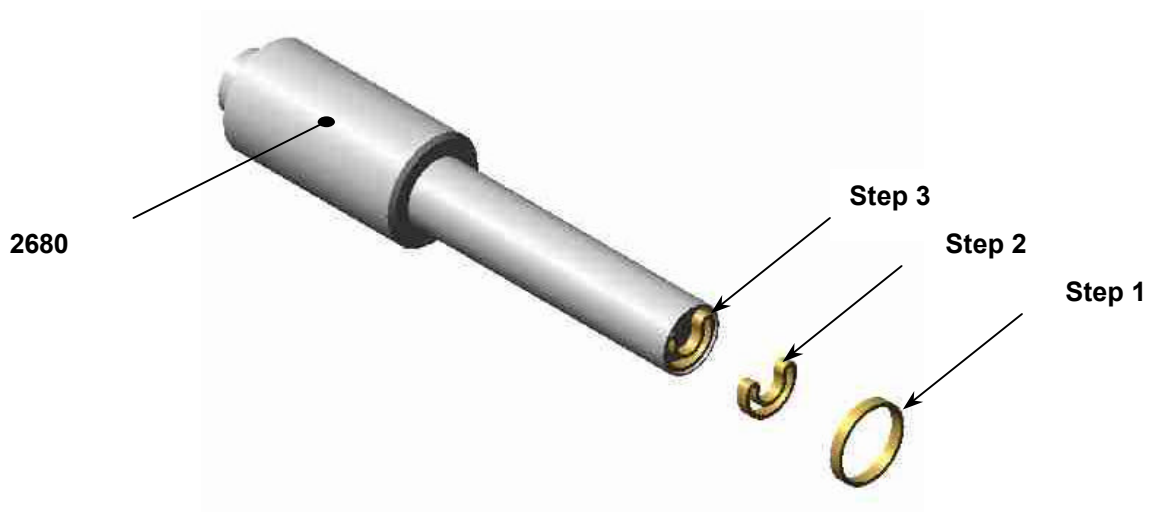

Figure 4
- Squeeze the sleeve into a "bean" shape, then insert it in the sleeve insertion tool P/N 2680 (Figure 4):